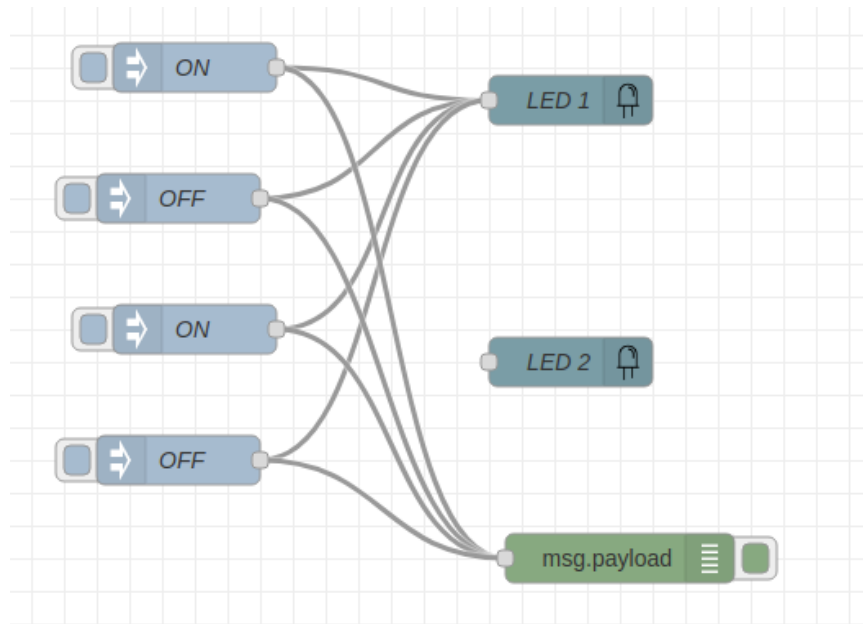

Figure 4-10: Capturing Messages
- Now copy the ON and OFF Inject nodes from your previous flow (Figure 4-10).